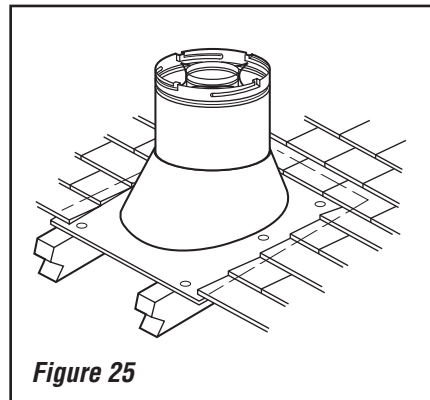

Figure 25
I. Install the roof flashing - Extend the vent sections through the roof structure. Install the roof flashing over the vent section and position such that the vent column rises vertically (use carpenter's level) (**Figure 25**). Nail along perimeter to secure flashing or adjust roofing to overlap the flashing edges at top and sides only and trim where necessary. Seal the top and both sides of the flashing with waterproof caulking.